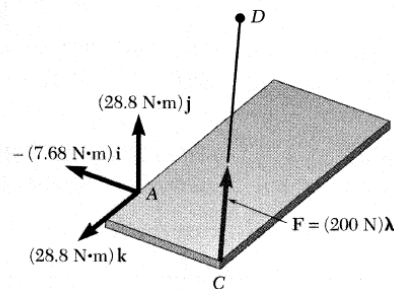

Fig. 2 Components of moment  $\mathbf{M}_A$  applied at  $A$ .
Substituting for  $\mathbf{r}_{C/A}$  and  $\mathbf{F}$  from (2) and (4) into (1) and recalling the relations in Eq. (3.7) of Sec. 3.1D, you obtain (Fig. 2)